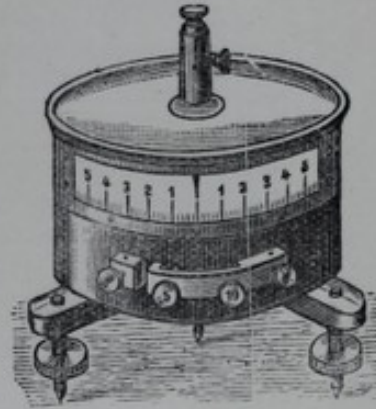

Fig. 49 Nos. 167 & 168.
N.B.—If fitted with the absolute-reading horizontal Galvanometer with vertical Scale (Fig. 49 No. 168) the Cabinets can be turned in any direction desired, without influencing the Galvanometer.
If with Galvanometer, Fig. 49 No. 168 (see N.B. page 17) Nos. 169 to 171, cost extra £4.